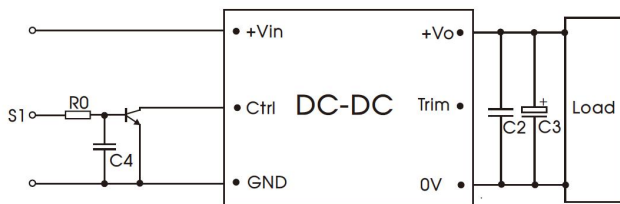

Fig.2
- (1) We recommended using Mornsun's EMC circuit, otherwise please ensure that at least a 100μF electrolytic capacitors is connected at the input in order to ensure adequate voltage surge suppression and protection.
- (2) Output ripple can be further reduced by appropriately increasing the output capacitor values Cin, Cout and/or by selecting capacitors with a low ESR (equivalent series resistance). Also make sure that the capacitance is not exceeding the specified max. capacitance load value of the product.
- (3) The recommended circuit for Ctrl function please refer to Fig.2.